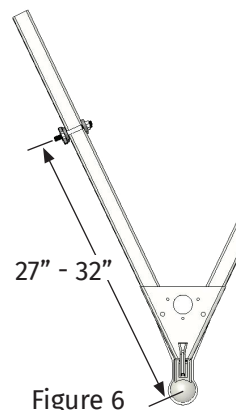

Figure 6
1. Install the bracket assemblies between 27" – 32" from the center of the coupler. (Figure 6) This range should allow you to avoid most obstructions on the trailer tongue like battery supports or propane tanks.